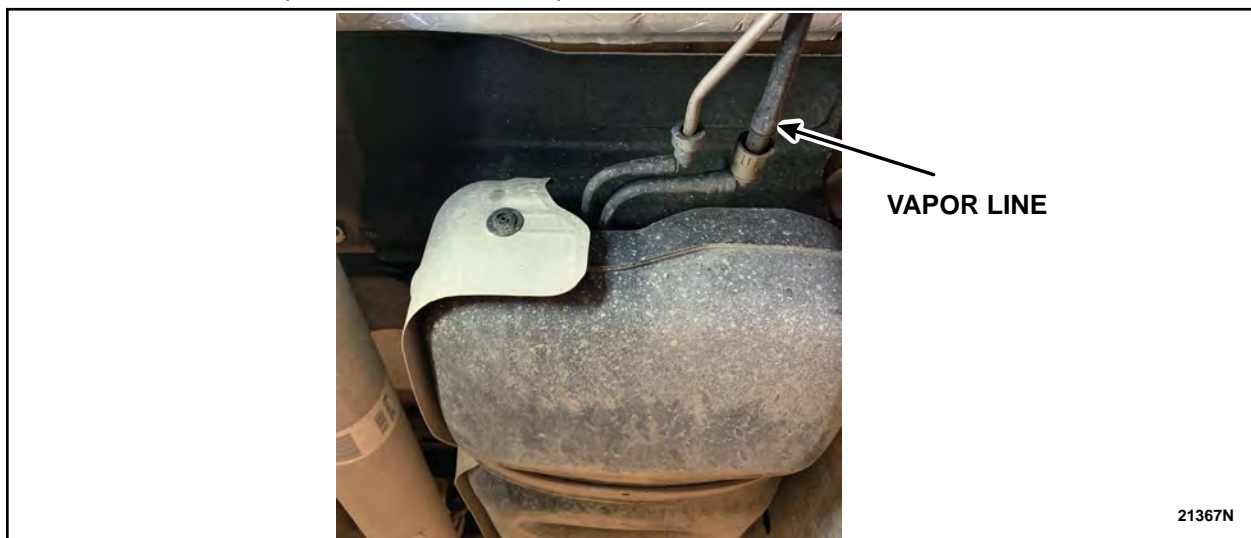

FIGURE 11
12. Inspect the vapor line for any damage caused by the driver side insulator. Is there any damage to the line? See Figures 11 through 13.